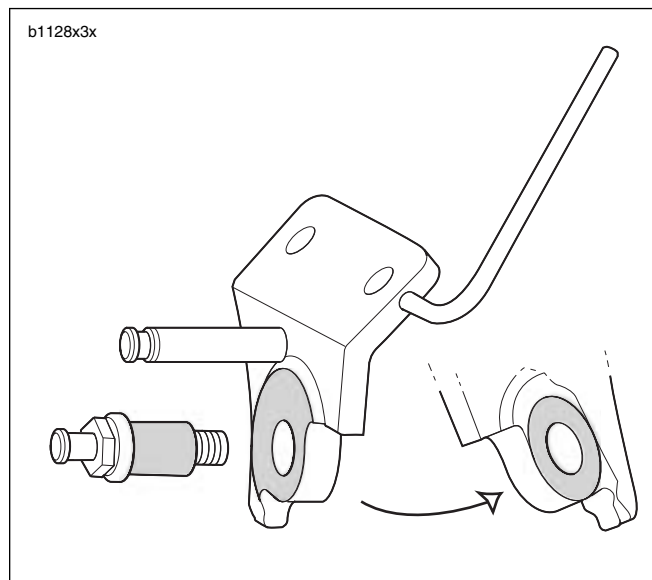

Figure 2-132. Lubricating Points (Shaded Areas)
- a. See Figure 2-132. Lubricate sidestand pivot bolt (3) and mating portions on sidestand bracket (5) with WHEEL BEARING GREASE (Part No. 99855-89) as shown in Figure 2-132.